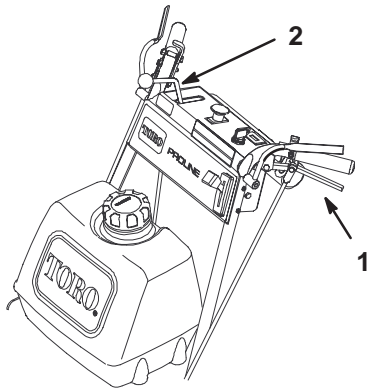

Figure 20
4. Slowly release the drive levers to move forward (Fig. 20).
To go straight, release drive levers equally (Fig. 20).
To turn, squeeze the drive lever on the side and direction you want to turn (Fig. 20).
2. Slowly squeeze the drive levers back to the grips together to move rearward (Fig. 20).